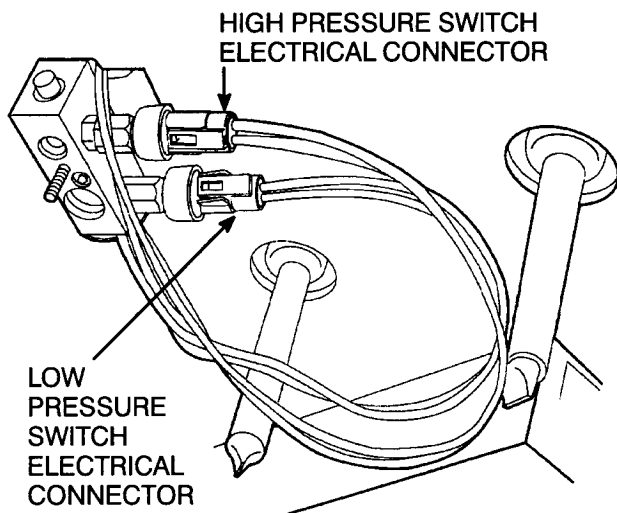

Figure 6 Low and High Pressure Switches (Refrigerant Lines not Shown)
4. Disconnect the electrical connectors from the low and high pressure switches (Figure 6).
6. Connect electrical connectors to both pressure switches (Figure 6).